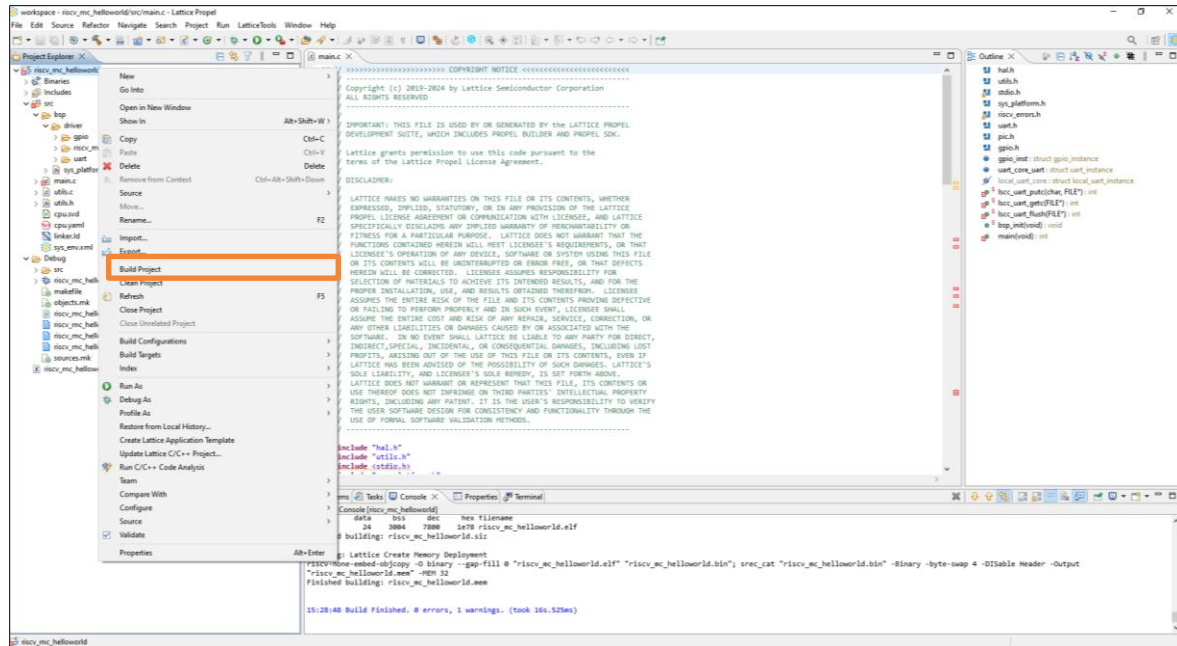
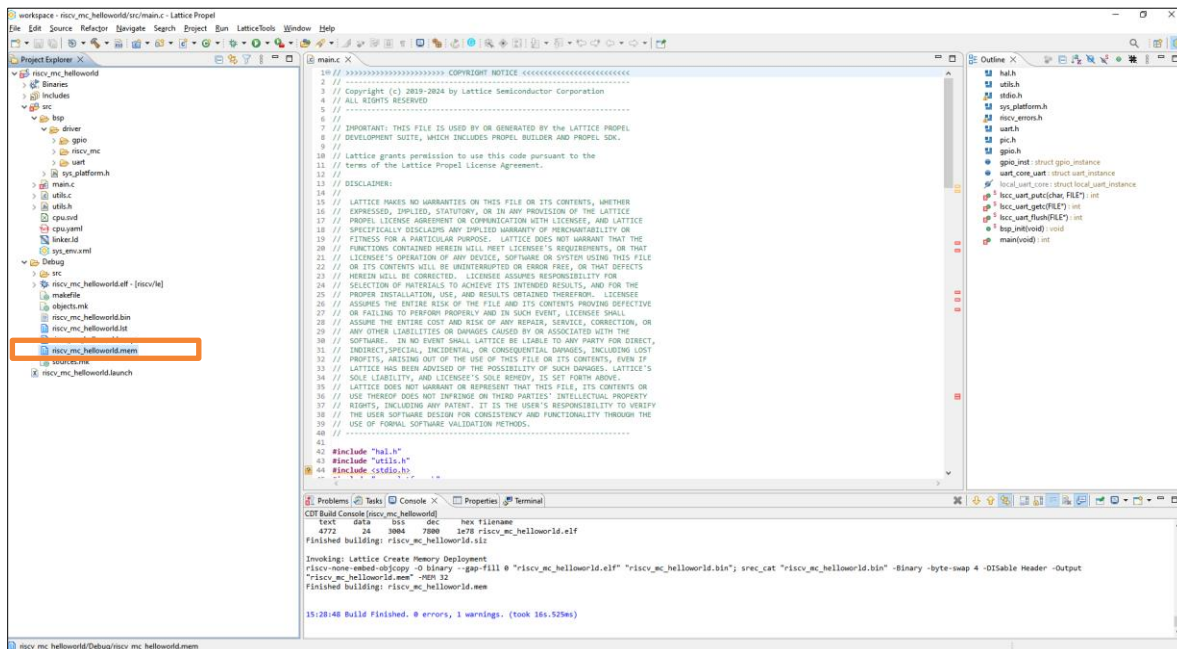

Figure 2.121. Build C/C++ Project
Figure 2.122. Mem File for Simulation
6. In Propel SDK, right click on Project and then click **Build Project** (Figure 2.121). A mem file is generated in **Debug** folder (Figure 2.122).